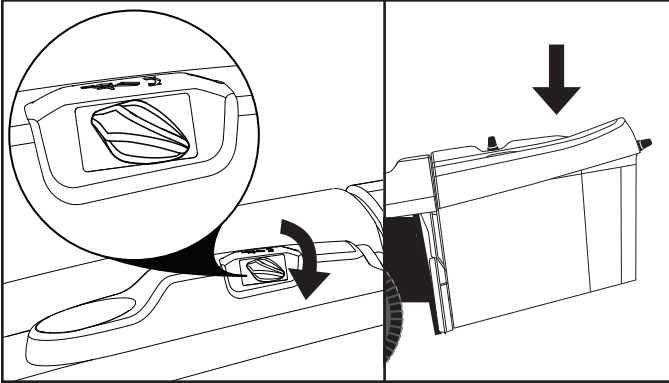

Fig. 21
- To lower the bagger, turn the electric dump switch clockwise. See Fig. 21.